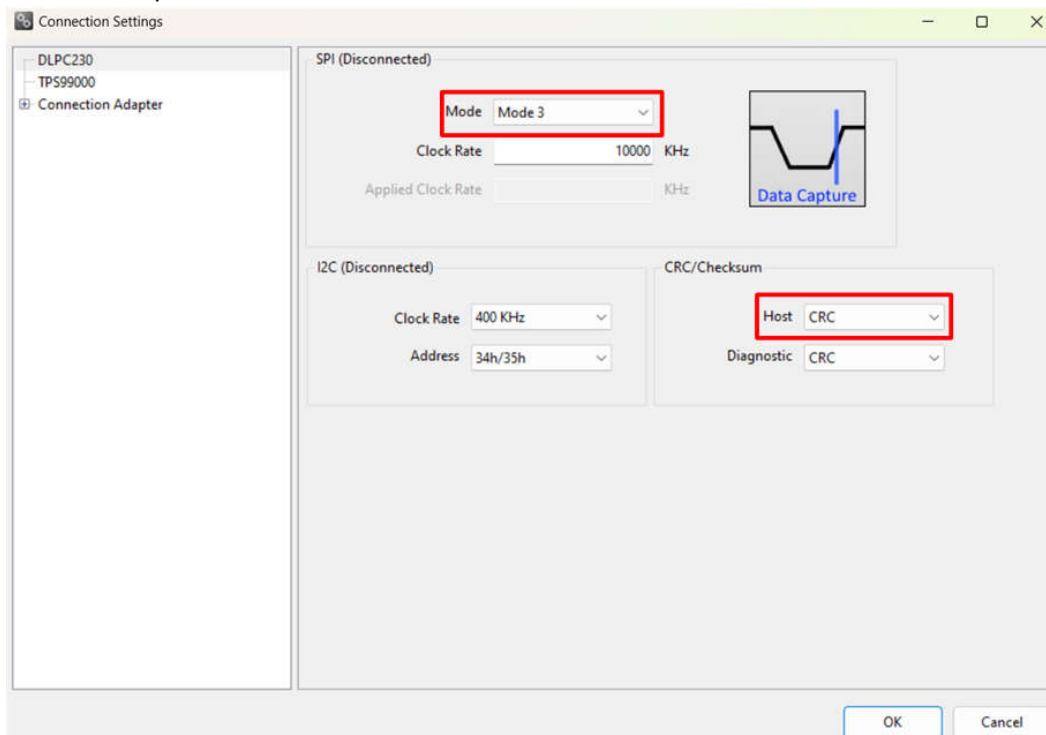

Figure 3-5. DLPC230-Q1 Automotive Control Program Communication Settings
2. Select *Connection Settings* to confirm the SPI configuration shown in Figure 3-5. Press OK once configuration is complete.